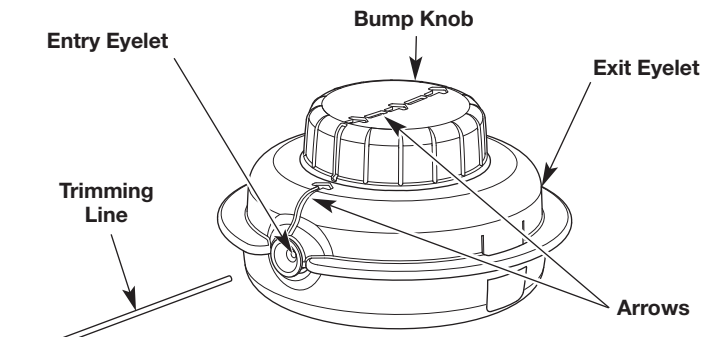

Fig. 17
3. Turn the bump knob clockwise to align the arrows (Fig. 17).
4. Insert the new trimming line into the entry eyelet (Fig. 17). Push the line through the cutting head until a few inches protrude from the exit eyelet. Pull the protruding line until approximately 10 feet (3 m) of line extends from each side of the cutting head. Make sure the line lengths on each side are equal.